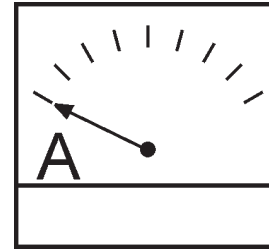

Figure 45. Ammeter (No Load)
9. The ammeter (Figure 45) will indicate **zero amps** with no load applied. When a load is applied, the ammeter will indicate the amount of current that the load is drawing from the generator.